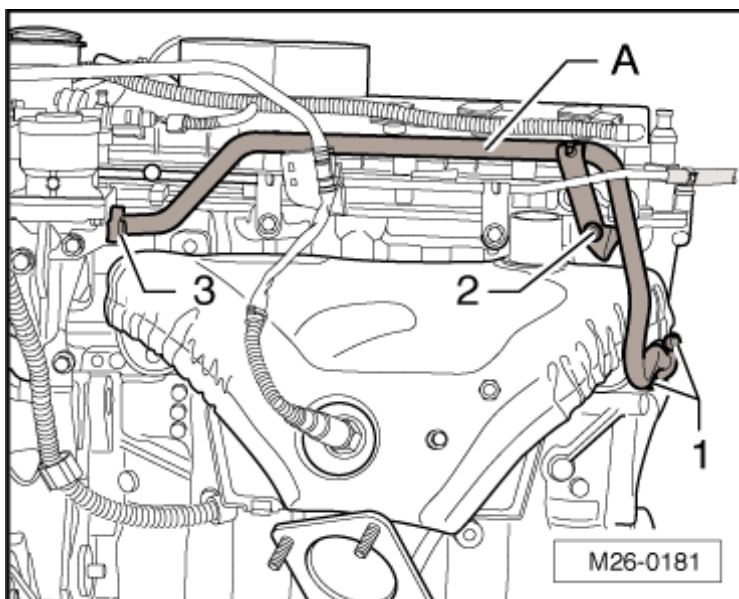

Fig. 23: Connecting Tube - Tightening Sequence
-- Observe the tightening sequence when installing the AIR connecting pipe -A-. Refer to **Fig. 23**.